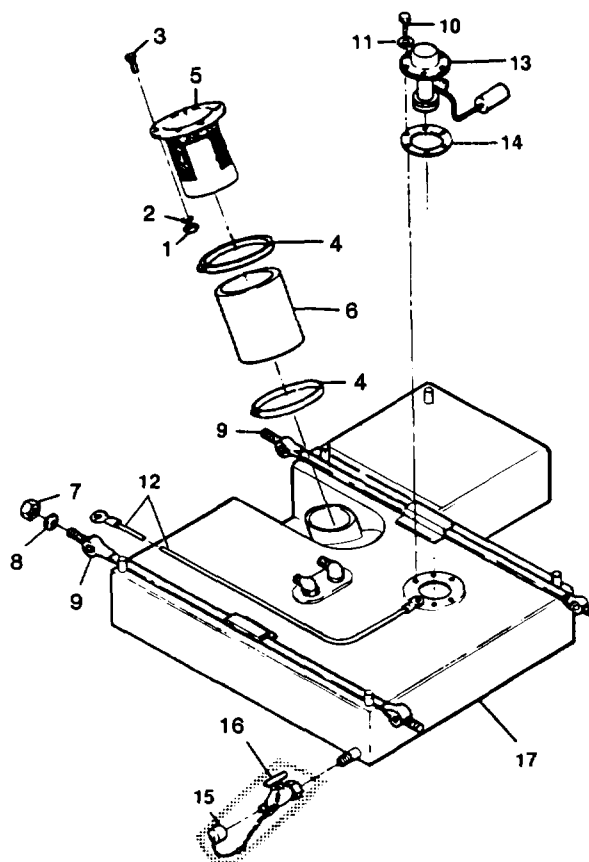

Figure 3-19. Main Fuel Tank (Plastic), Removal and Installation
- (1) Refer to the Operator and Unit Manual and accomplish the following:
- (2) Remove nut (1, figure 3-19), lockwasher (2), screw (3), clamps (4), filler neck (5), and hose (6).
- (3) Remove locknut (7), flat washer (8), from strap (9).
- (4) Remove screws (10), lockwasher (11), ground wire assembly (12), fuel level switch (13), and fuel level switch gasket (14). Replace gasket if damaged.
- (5) Remove cap (15) and drain valve (16) from plastic fuel tank (17).
- (1) Position plastic fuel tank (17, figure 3-19) to install drain valve (16) and cap (15).
- (2) Install new fuel level switch gasket (14), fuel level switch (13), ground wire assembly (12), lockwasher (11) and screws (10).
- (3) Position strap (9), to install flat washer (8), and locknut (7).
- (4) Install hose (6), filler neck (5), clamps (4), screws (3), lockwasher (2), and nut (1).
- (5) Refer to the Operator and Unit Maintenance Manual and accomplish the following: